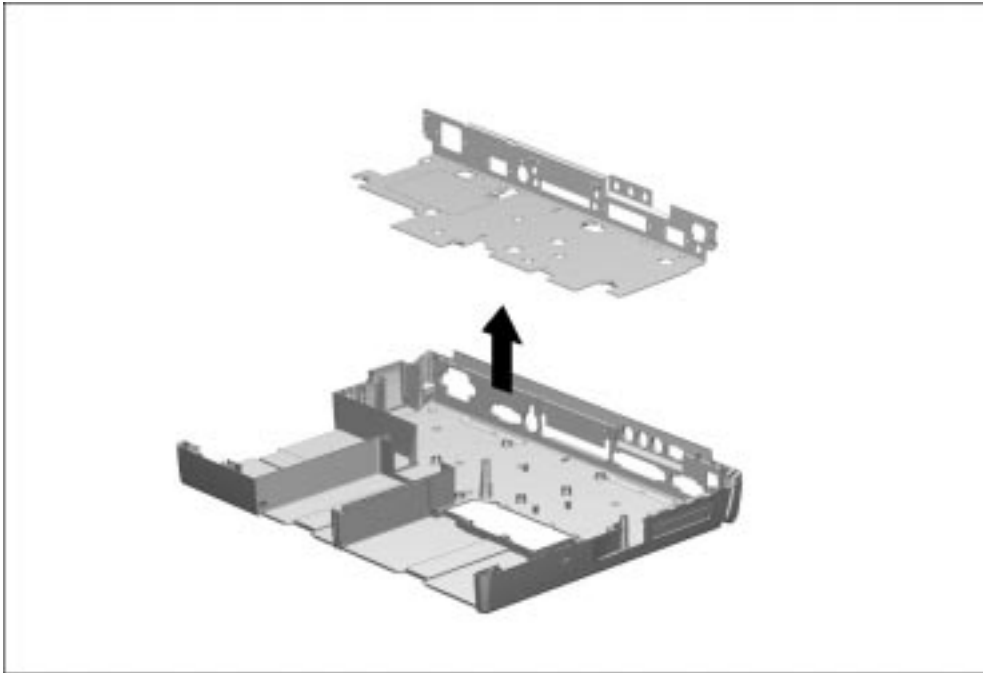

Figure 5-81. *Removing the I/O Bracket*
15. Lift the back edge of the I/O bracket. When the bracket clears the computer base assembly, lift it out of the base assembly (Figure 5-81).